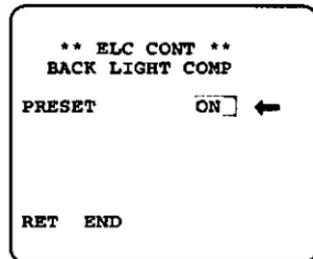

Fig. 40
- Move the cursor to the "PRESET" mode position and select the "ON" mode by using the Left Switch (<) (7) or Right Switch (>) (6). The preset mode menu is displayed on the monitor screen as shown in Fig. 40.